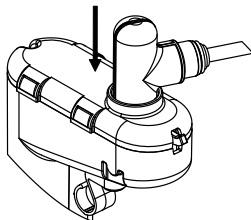

Figure 14a
- Make sure that the shutoff is securely latched (Fig. 14a, 14b).
- Insert the tip into the hole of the shutoff (Fig. 14a).